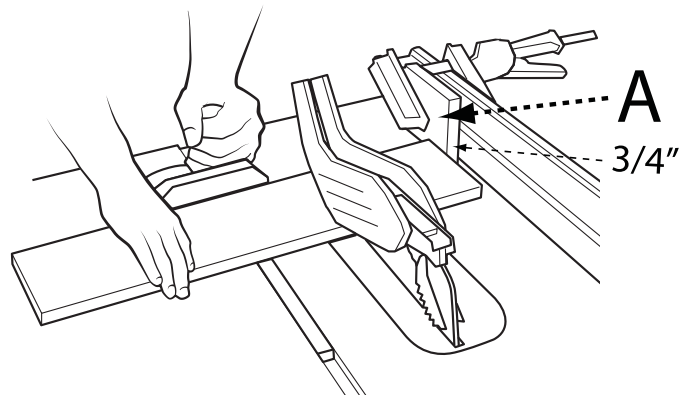

FIGURE 23
When crosscutting a number of pieces to the same length, you can clamp a block of wood (A) (as shown in Figure 23) to the fence and use it as a cut-off gauge. The block (A) must be at least $\frac{3}{4}$ -inch (19 mm) thick to prevent the cut off piece from binding between the blade and the fence. Once the cut-off length is determined, lock the fence and use the miter gauge to feed the workpiece into the blade.